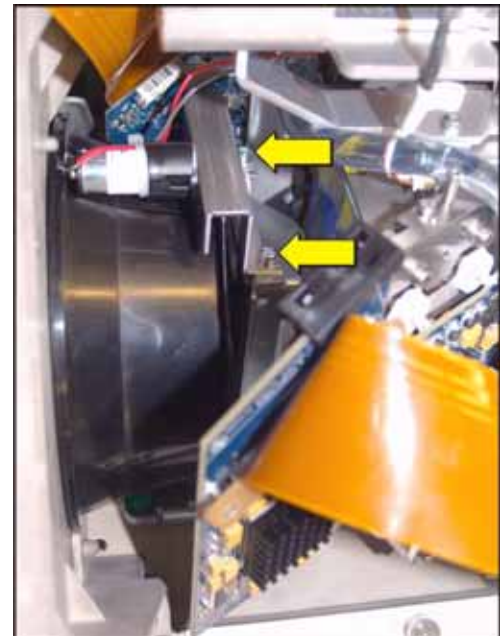

Figure 5-46 Remove Shutter
6. Using a #2 Phillips™, remove the two screws securing the shutter assembly to the light engine. (**Figure 5-46**)